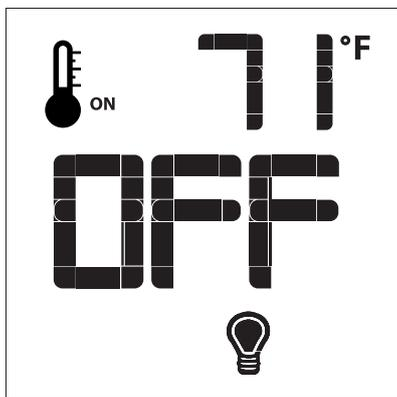
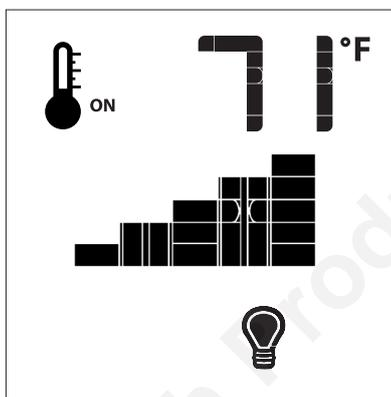

Fig. 15
Fig. 16
The auxiliary function controls the AUX power outlet by the dimmable light control. To activate this function use the Mode Key (fig. 1) to index to the AUX icon (fig. 15 & 16). The intensity of the output can be adjusted through six (6) levels. Use the Up/Down Arrow Keys (Fig.1) adjust the output level (fig. 16). A single “beep” will confirm reception of the command.